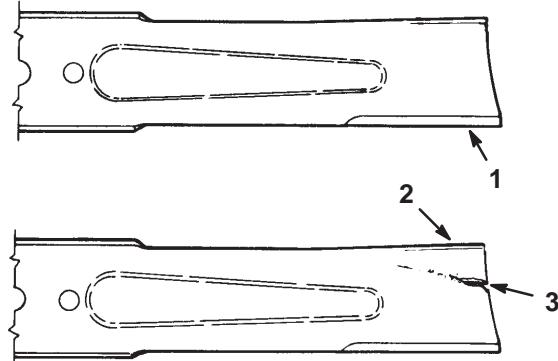

Figure 24
1. Inspect the cutting edges (Fig 24). If the edges are not sharp or have nicks, remove and sharpen the blades. Refer to Sharpening the Blades on page 25.
2. Inspect the blades, especially the curved area (Fig. 24). If you notice any damage, wear, or a slot forming in this area (item 3 in Fig. 24), immediately install a new blade.